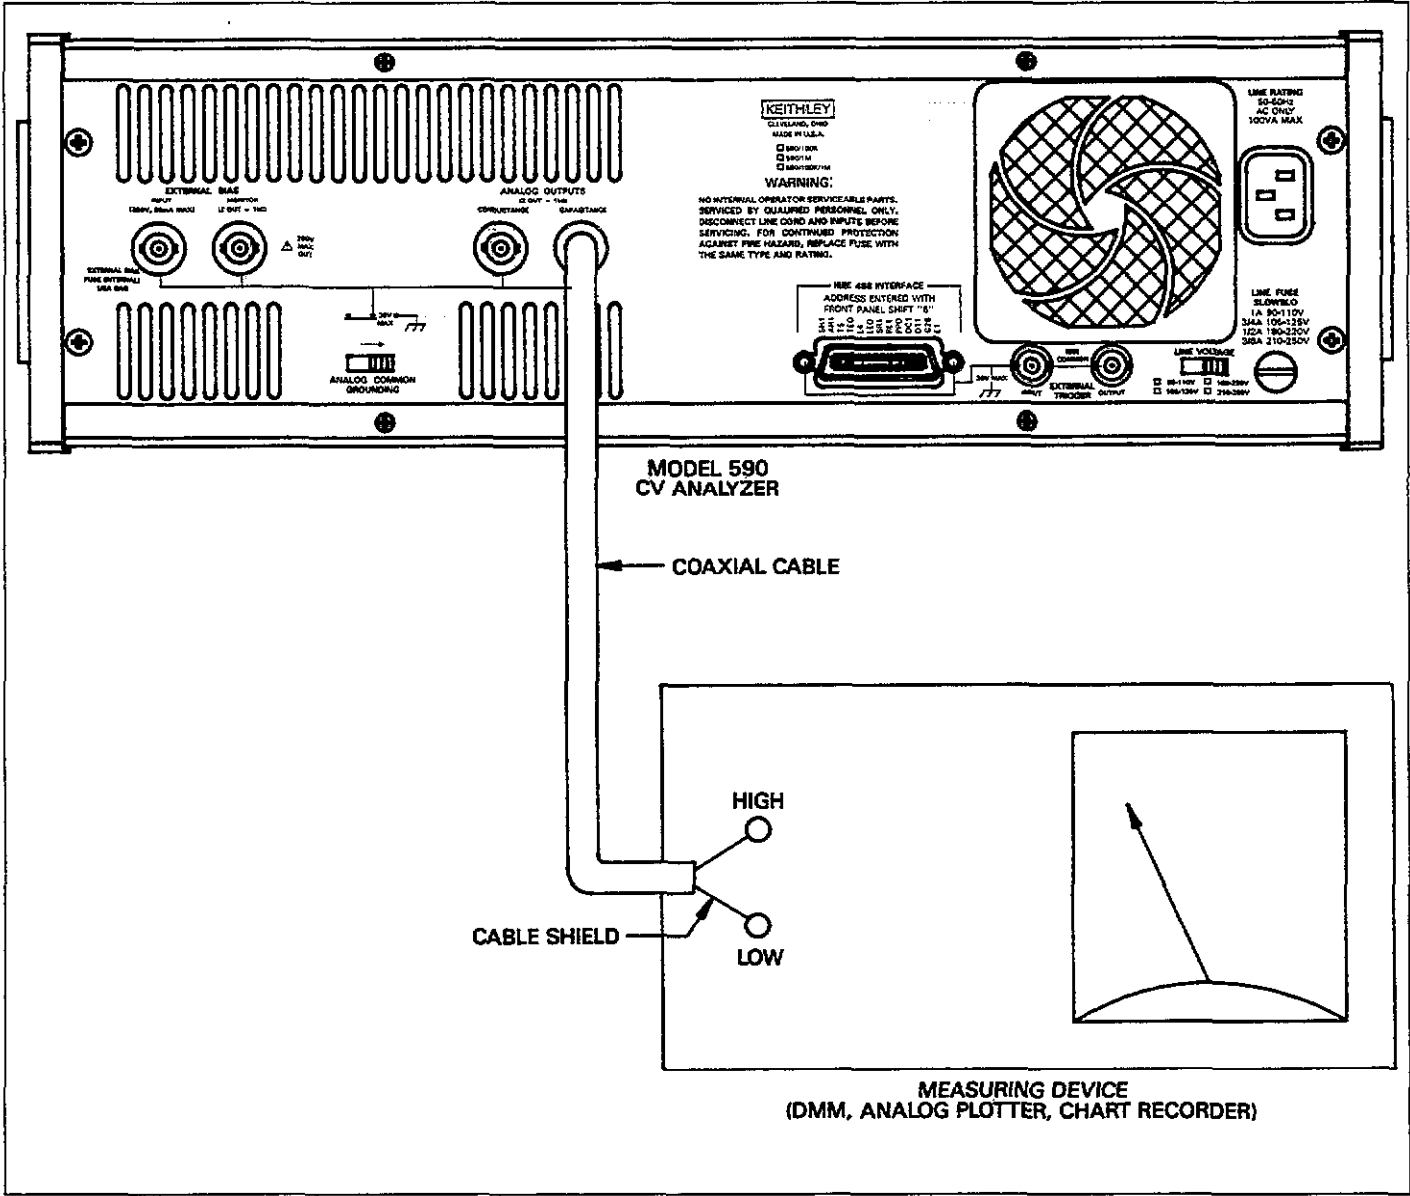

Figure 3-54. Analog Output Connection Example
The analog output BNC connectors are located on the rear panel of the instrument, as shown in Figure 3-54. The CAPACITANCE output provides a scaled 0-2V (0 to 0.2V, 2pF, 100kHz range) for the capacitance reading. In a similar manner, the CONDUCTANCE output provides a scaled 0-2V (0 to 0.2V, 2μS, 100kHz range) for the conductance reading. Figure 3-54 also shows typical connections for the outputs; in this instance, connections to the CAPACITANCE output are shown. Note that the center conductor is high, and the outer ring is low.
1. Shielded cable should be used for analog output connections to minimize the possibility of EMI susceptibility. Connect the shield to analog output low as well as the low terminal of the measuring device, as shown in Figure 3-54.